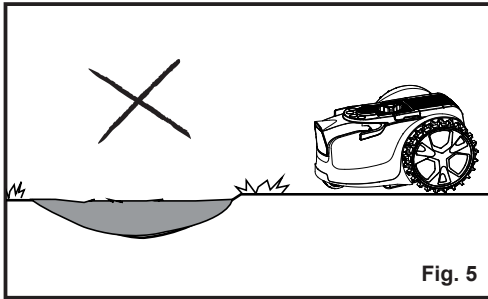

Fig. 5
2. Inspect the lawn for holes or hollows. Fill them with topsoil to prevent rainwater from forming pools of water on the lawn and to prevent mower from becoming stuck. The mower may be damaged if it is operated in pools of water (Fig. 5).